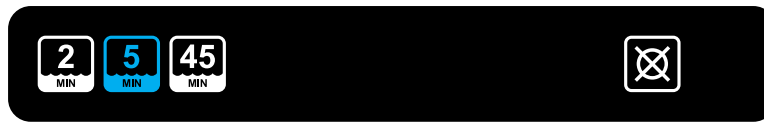

Figure 45 – Secondary Control Panel — Wash Cycle Begins
3. If no option is selected, the default wash cycle will run (Figure 45).